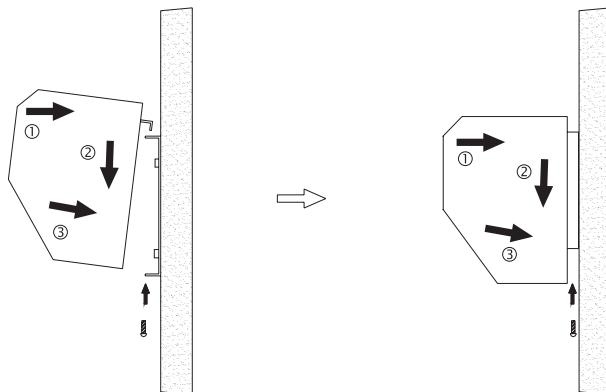

Figure 6. Air Curtain Installation on the mounting plate.
- e) Install Air Curtain on the mounting plate according to Fig.6.